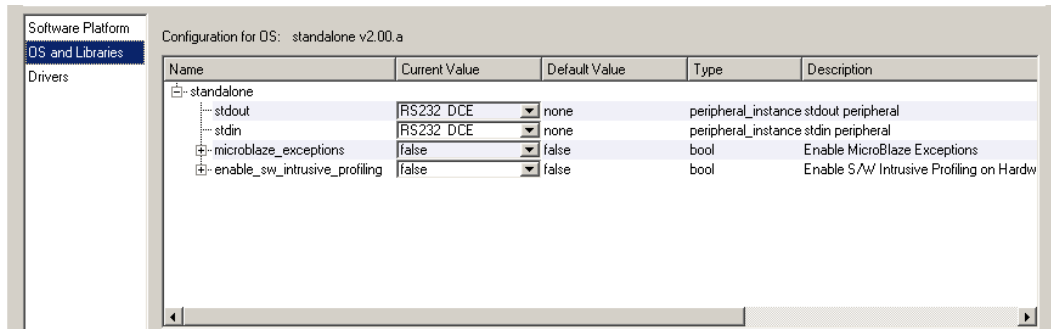

Figure 22: OS and Libraries view
- **Select** the OS and Libraries view as shown in Figure 22. This view allows the user to configure OS and library parameters.